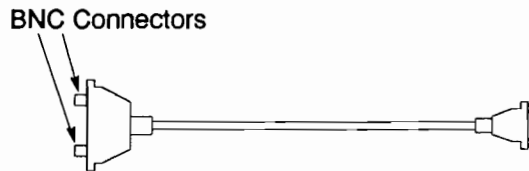

Figure 8-8. Network Cable with BNC Connectors
4. If you're using a cable with BNC connectors (007605), as shown in Figure 8-8, to connect the system to the network, tell the system administrator that you're about to switch the workstation loop out of the network.